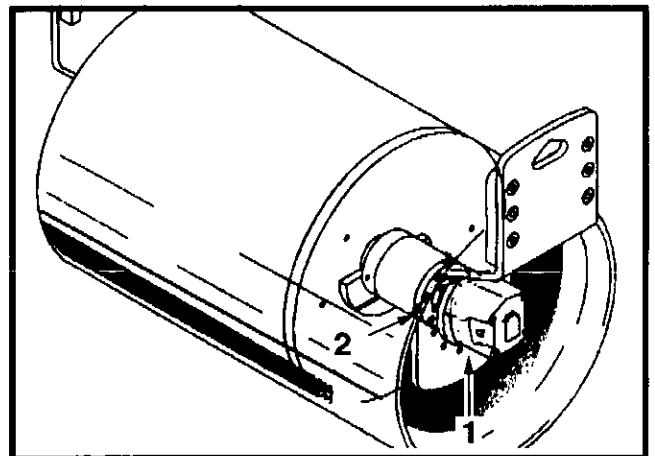

Figure 5-27 Eccentric Oil Fill, Level, Drain ports
2. Position the drum with eccentric plug (1, Figure 5-27) in 6 o'clock position.
5. Remove plug (1, Figure 5-27) and allow oil to completely drain from the housing into a container. Dispose of oil in accordance with local regulations.
7. To check or refill, ensure the fill port (1, Figure 5-27) is in the 3 or 9 o'clock position.
8. Using appropriate filling device, slowly add gear oil through the port (1) until oil overflows. Refer to Section 8 - Fuel And Lubricant Instructions for oil specifications and quantities.
2. Position the drum with drain plug (3, Figure 5-27) in 6 o'clock position.